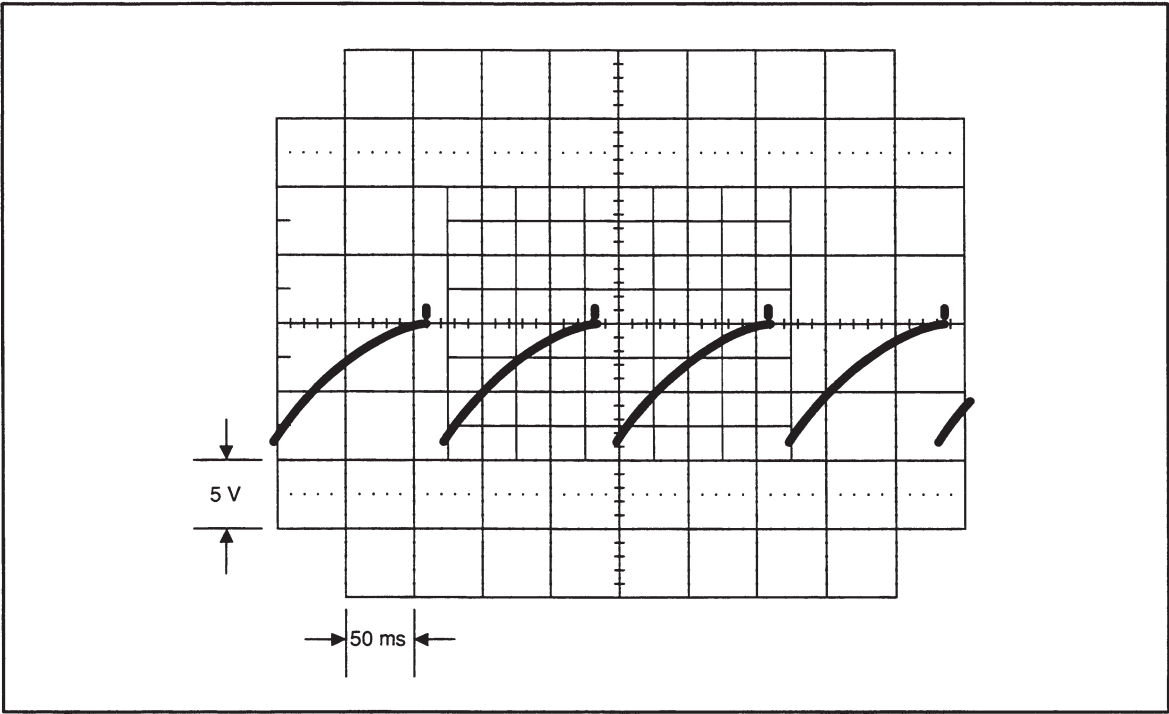

Figure 5-9. Waveform at U112, Pin 1, 5V DC Input
3. Test the level detectors by applying $\pm 5\text{V}$ dc to the 2.2V range. The output of pin 1 of U112A with respect to the ac plate should look like the waveform in Figure 5-9 for both positive and negative voltages at the INPUT.